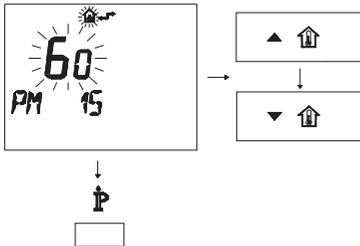

Fig. 7.13
- Modify the programmed SET by acting on buttons  $\blacktriangle \uparrow$  or  $\blacktriangledown \downarrow$  until a **setting of 60** is displayed, wait for the number programmed to flash (Fig. 7.13)